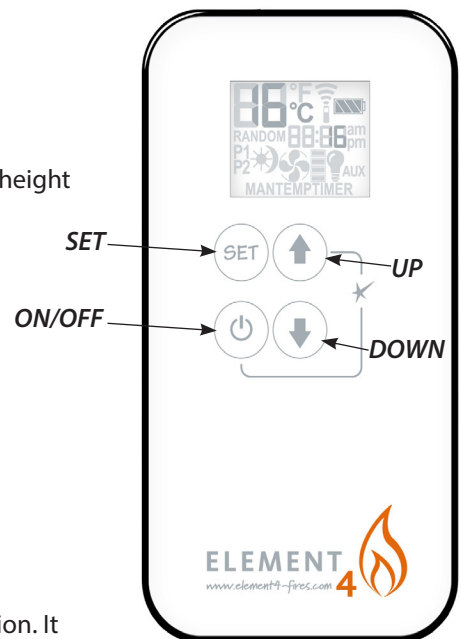

Figure 40 Remote Control
6. Place the three AAA batteries into the remote control and confirm that it will communicate with the receiver by pressing the **ON/OFF**. (See Figure 40) If necessary pair the remote and receiver.